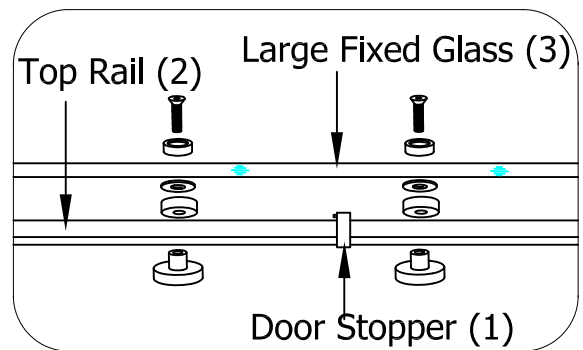

Fig. 5
5. Position the Top Rail (2) and Large Fixed Glass (3) as shown in Fig.5 and connect Large Fixed Glass (3) to Top Rail (2) following the assembly sequence shown in Fig.5. Note in Fig.5, one Door Stopper (1) should be positioned between mounting holes in Top Rail (2) before connecting Top Rail to Large Fixed Glass.